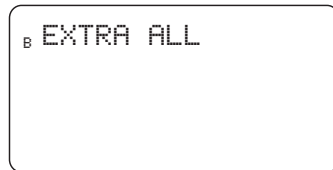

Figure 18:
- Continue to press the **NEXT** button until you see “**B EXTRA ALL**” [See Figure 18]